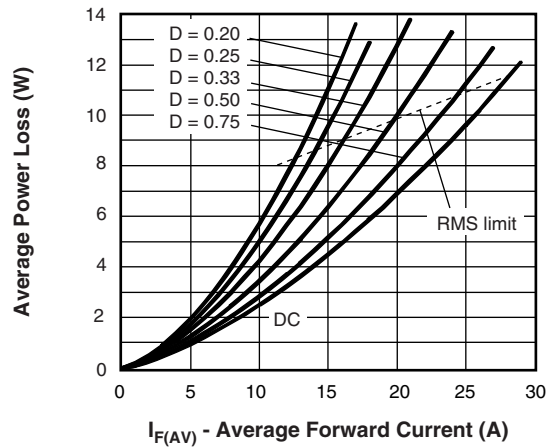

Fig. 6 - Forward Power Loss Characteristics
- (1) Formula used:  $T_C = T_J - (P_d + P_{d_{REV}}) \times R_{thJC}$ ;
- $P_d$  = Forward power loss =  $I_{F(AV)} \times V_{FM}$  at  $(I_{F(AV)}/D)$  (see fig. 6);